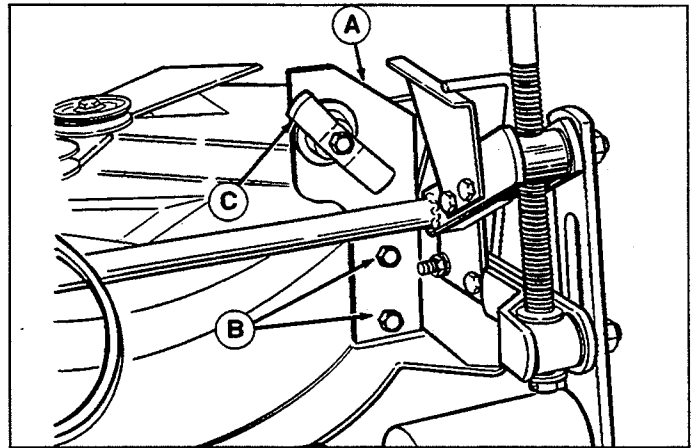

Figure 7. Mfg. No. 1691867 only.
11. **Mfg. No. 1691867.** See figure 7. Install support brace assy. (A) to rear surface of deck. Secure with two taptite screws (B).